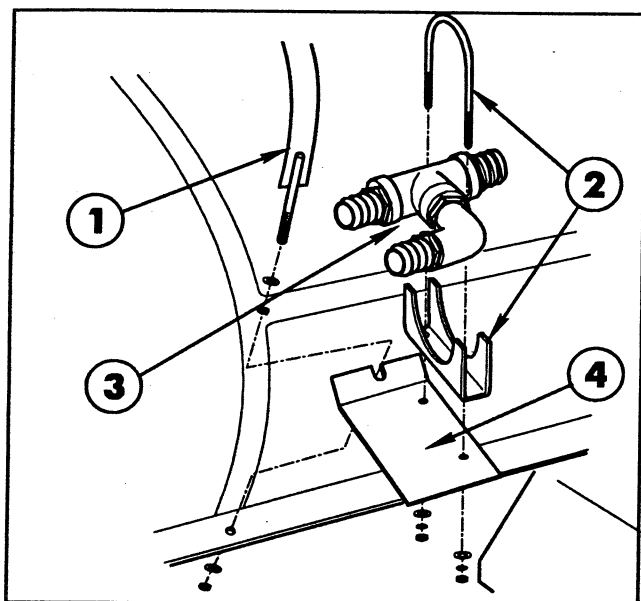

FIG. 8
8. Secure the Mounting Member to the Vehicle's cross member with two (2) 1/2" x 1-1/2" cap screws, flat washers, lock washers and hex nuts.
9. Remove hex nut and flat washer securing Front Tank Band to left side of saddle. Install 3/8" hex nut and flat washer and reinstall Tank Band to Saddle with previously removed fasteners. Mount the Tee Mounting Bracket to the left side of the saddle at the front Tank Band, using 5/16" flat washer and hex nut, previously installed, as shown in FIG. 8.